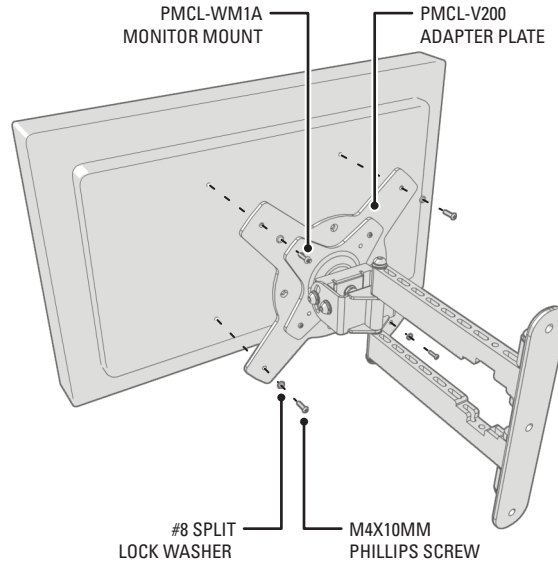

Figure 2. Attaching the PMCL-V200 Adapter and Monitor Mount to a Monitor
2. Attach the monitor mount to the monitor. Refer to Figure 2 and do one of the following: